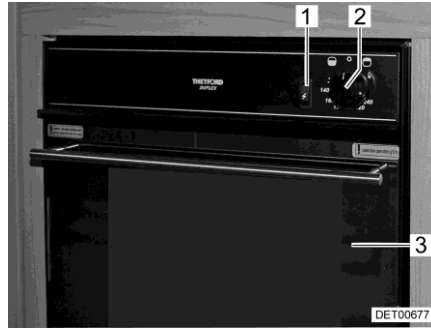
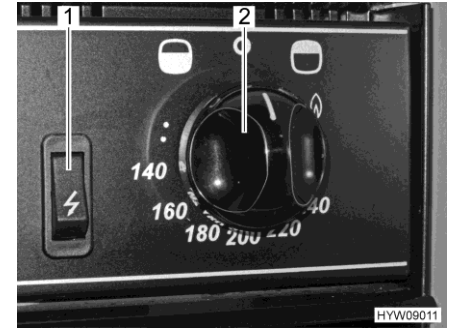

Fig. 144 Gas oven with grill
Fig. 145 Operating controls (gas oven with grill)
- Fully open the oven flap (Fig. 144,3).
- Press the control knob (Fig. 144,2 and Fig. 145,2) and set it to the maximum setting anticlockwise (towards the oven symbol "🔥").
- Press the control knob (Fig. 144,2 and Fig. 145,2) and hold it down for 5 to 10 seconds. Gas will stream into the burner.
- Keep the ignition switch (Fig. 144,1 and Fig. 145,1) pressed until the flame burns.
- Press the control knob (Fig. 144,2 and Fig. 145,2) and turn it clockwise (towards the grill symbol "🔥") in the direction of the flame symbol.
- Turn the control knob (Fig. 144,2 and Fig. 145,2) to "O". The flame fades.